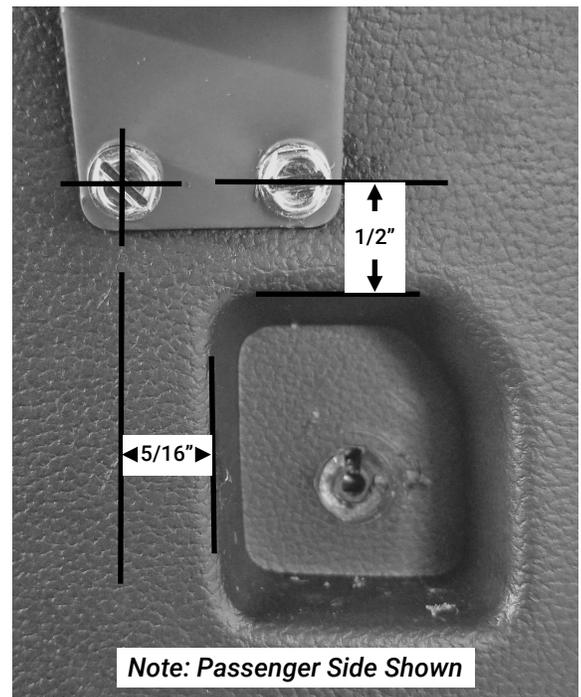

Figure 4
- A. Measure and mark the location shown in Figure 4 on both sides of the vehicle. This location is the center point for the forwardmost screw for the Support Weldment. It is located 1/2" up from the inside of the top fillet into the OEM pocket and 5/16" forward from the inside of the forward fillet into the OEM pocket.
- B. Locate the CSC Support Weldment [3CSC472005] and the (4) #8 sheet metal screws [3X618].
- D. Ensure the bar is level transversely and longitudinally then install the remaining (2) screws. The screws will go through the plastic trim and then into the sheet metal of the D-pillar.